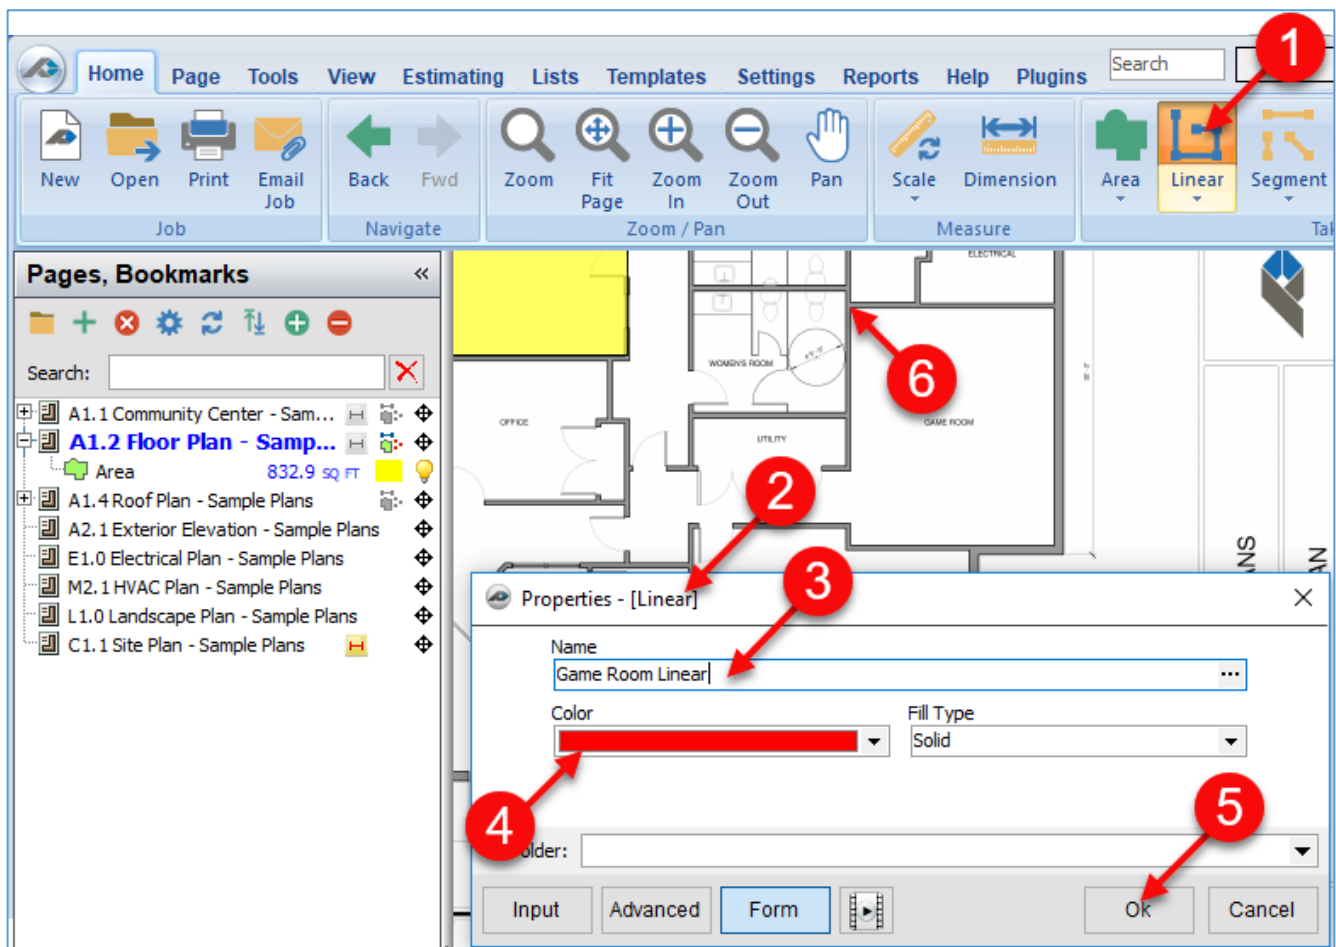

Figure 11-A
7. Press the **M** key on the keyboard to magnify the **Point** for greater accuracy and click on the location where you want to begin the takeoff (Fig. 11-B).